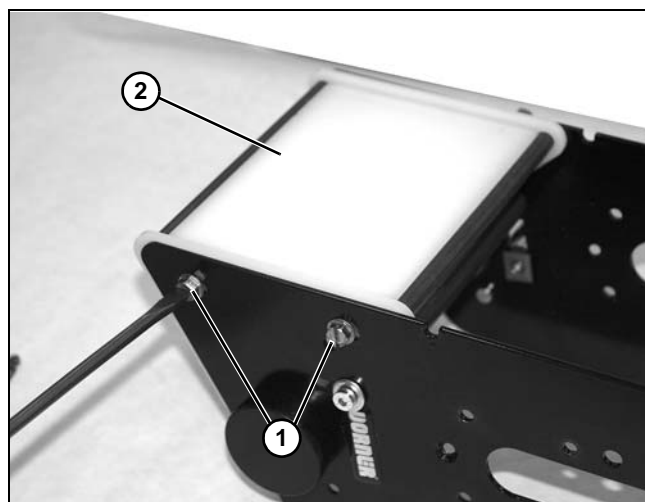

Figure 126
17. Remove two bolts (**Figure 126, item 1**) on each side holding wear bar assembly (**Figure 126, item 2**) onto power transfer.